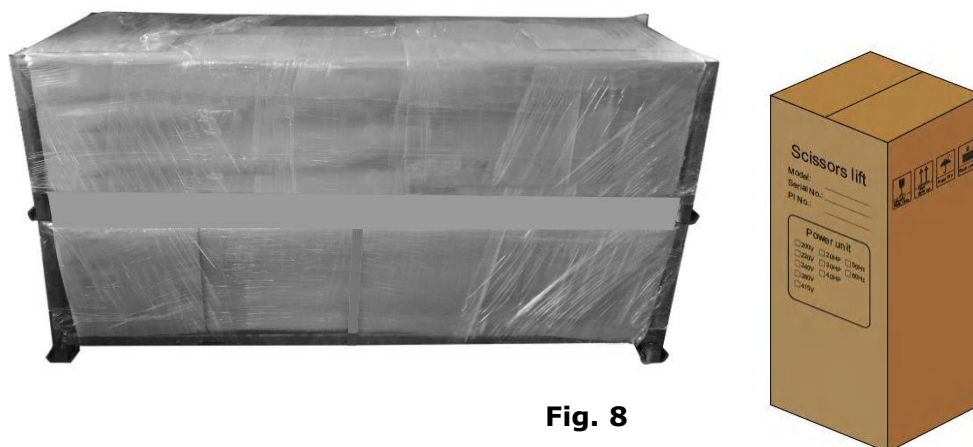

Fig. 8
- Whole set of one unit (Packaged lift and hydraulic power unit). **(See Fig.8)**